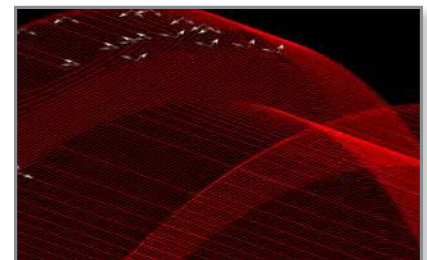

Figure 6: Arrows show the default seam location.
**STEP 3:** From the *Toolpaths* pull-down menu, select *Seam Control*. An arrow designating the current seam location of each curve or toolpath will appear (Figure 6).